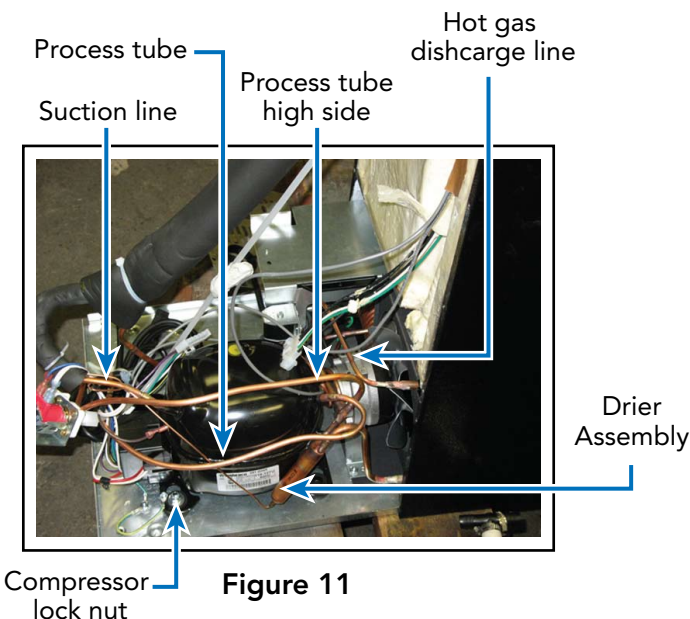

Figure 11
25. Unbrazed and remove suction line at compressor (see **Figure 11**).
26. Unbrazed hot gas discharge line at compressor (see **Figure 11**).
27. Remove compressor by removing the two lock-nuts on the mounting plate of the compressor. Lift compressor off of carriage bolts (see **Figure 11**).
15. Unbrazed and remove suction line at compressor (see **Figure 11**).
16. Unbrazed hot gas discharge line at compressor (see **Figure 11**).
17. Remove compressor by removing the two lock-nuts on the mounting plate of the compressor (see **Figure 11**). Lift compressor off of the carriage bolts.
15. Unbrazed the hot gas line from the compressor at the top of the condenser coil (see **Figure 11**).